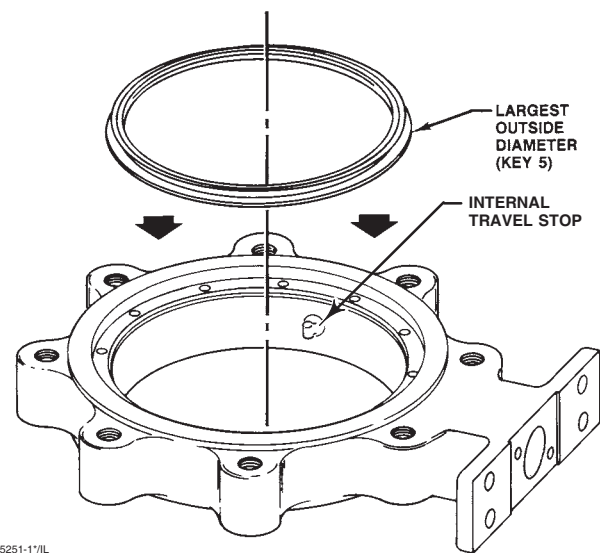

Figure 8. Typical Seal Installation
1. Locate the replacement seal ring (key 5) and note the shape of the ring. The ring is wider across one edge diameter and narrower across the other edge diameter. Around the outside circumference is one wide groove.
Before installing the seal ring into the valve body, place the O-ring (key 6) into the wide, outer groove of the seal ring. Refer to figure 8.
1. Locate the replacement seal ring (key 5) and note the shape of the ring. The ring is wider across one edge diameter and narrower across the other edge diameter as shown in figure 8. Around the outside circumference is one wide groove.
When attaching the actuator to the valve, make sure the valve disc is not in contact with the valve internal travel stop (see figure 8). The valve disc should be positioned from 0 to 0.76 mm (0 to 0.030 inch) away from the internal stop in the valve body (see figure 8).